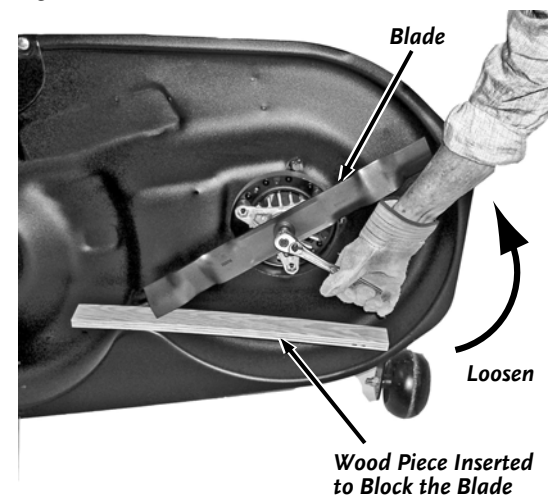

Figure 14
2. Block the Blade with a piece of wood between the Blade and the Mower Deck. (**Figure 14**)